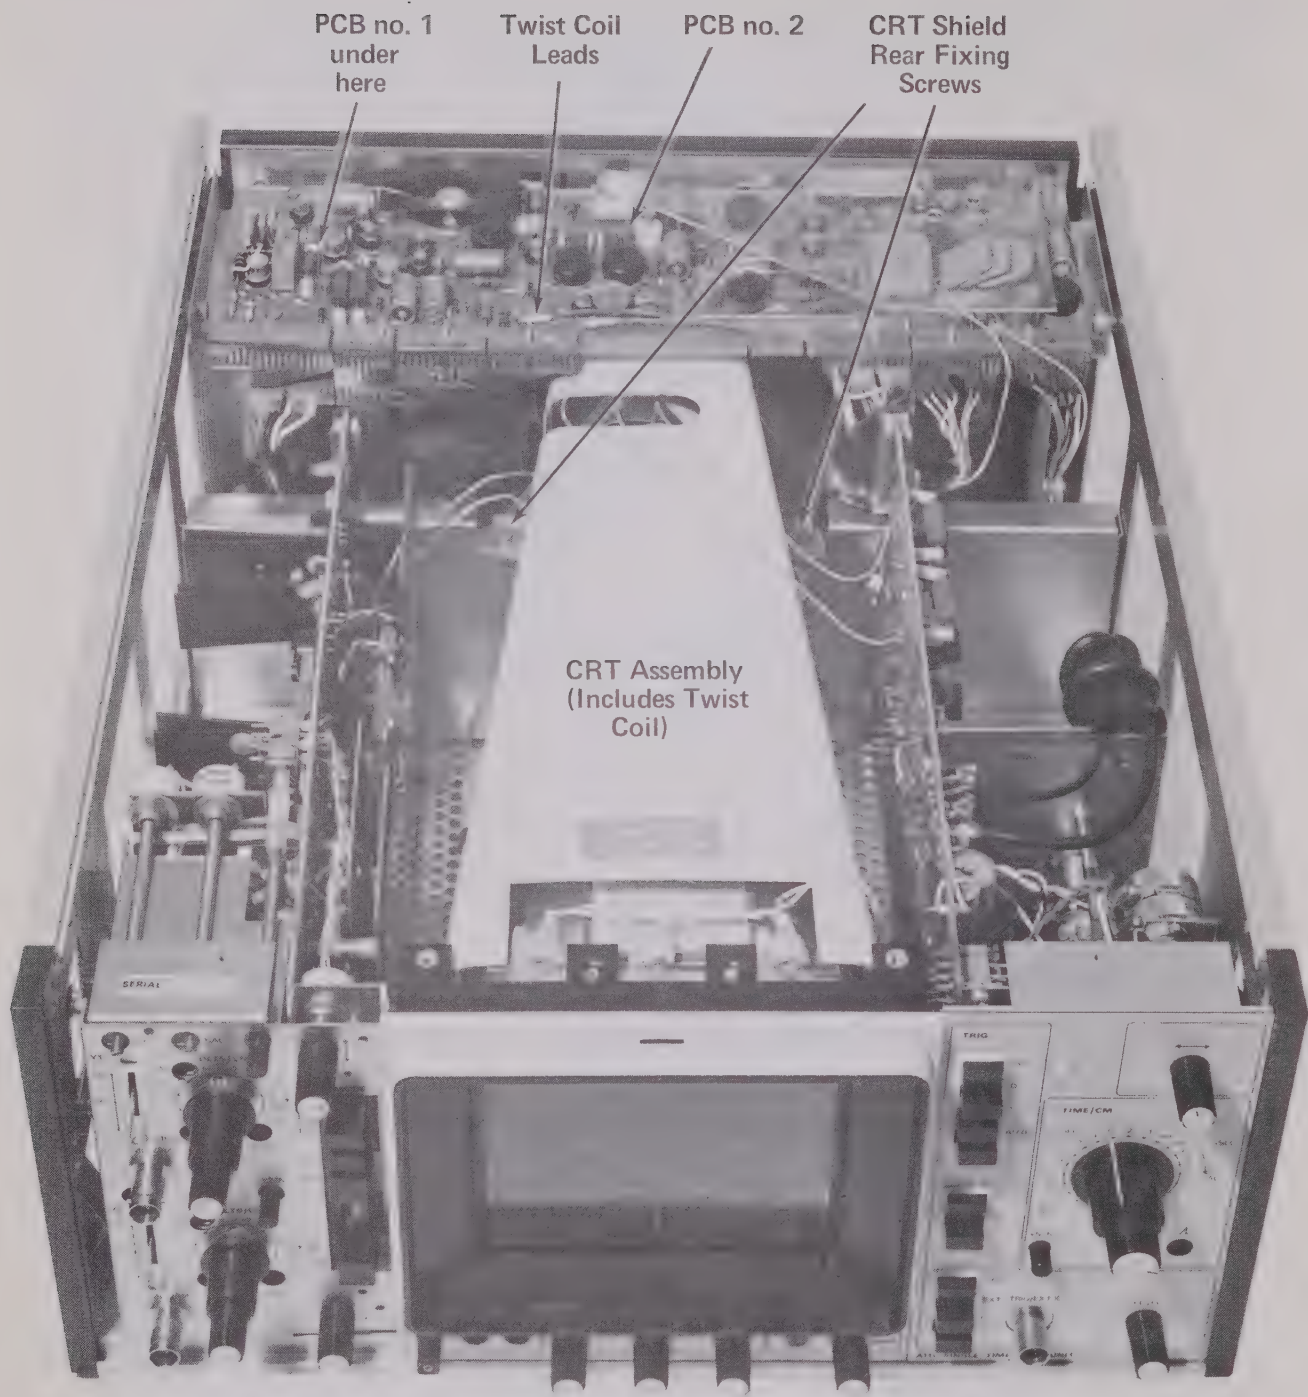

Fig. 8.1 A100 System Top View
9. Remove the two CRT shield rear fixing screws (See Fig. 8.1).